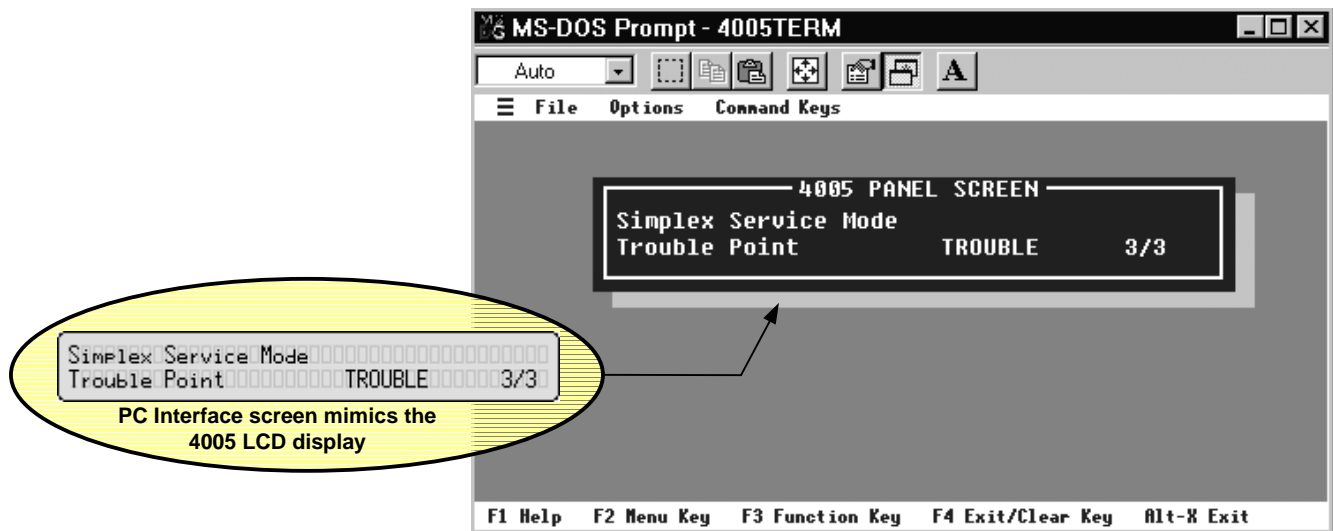

Figure 2. 4005 PC Interface Screen
4. From the MS-DOS Prompt (`C:\>4005\`) type `4005term` and press Enter (Figure 2 appears).